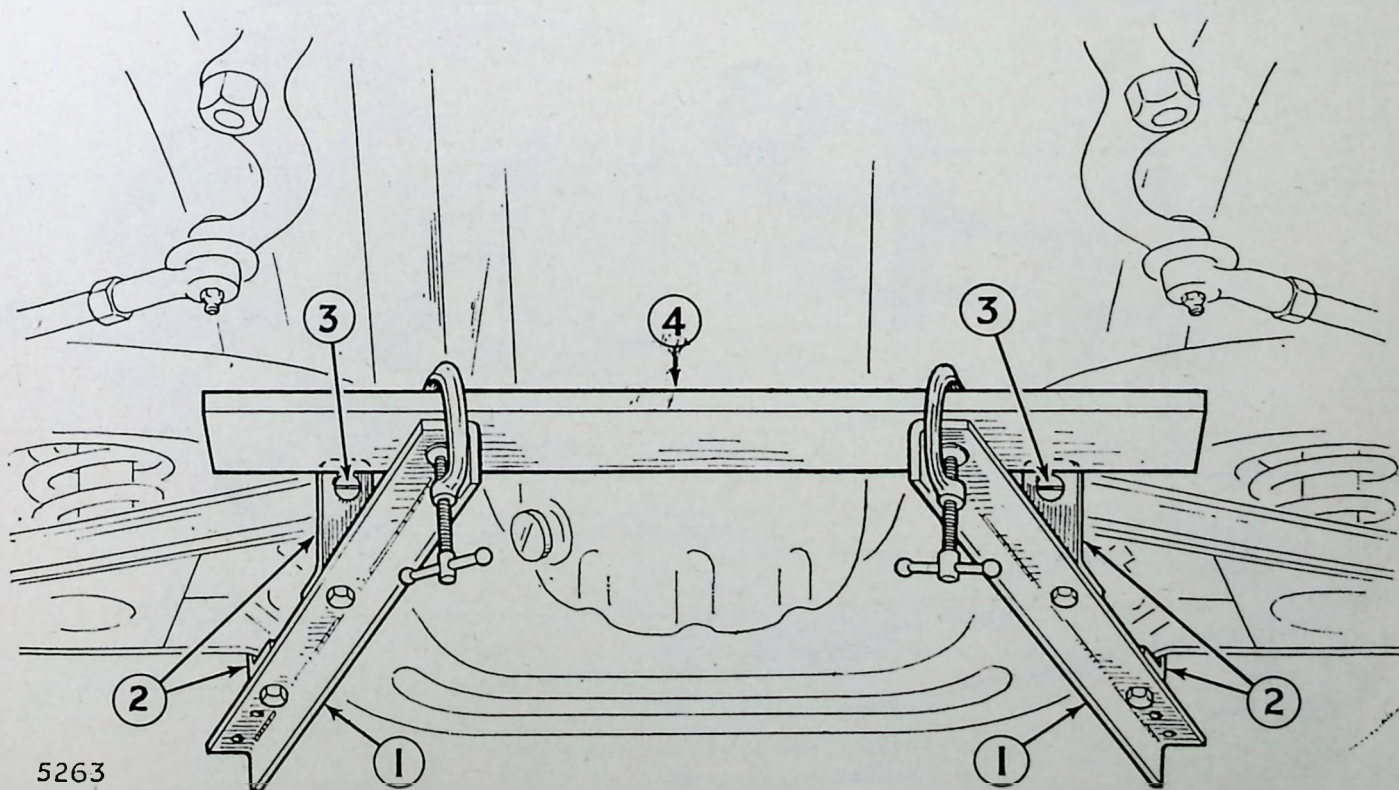

FIG 10—Ball pin height checking fixtures in position. Details of items 1 to 4 are given in figure 12.
Steering ball pin heights are checked by means of a scribing block used on the simple tool illustrated in Figs 10 and 11. This tool is necessary as it enables measurements to be taken from the lower link fulcrum pin centres which are the correct datum points.
Fit up tool as illustrated in Fig. 10, making sure that no slackness exists between centres and greaser holes.
brackets item 3, from the measuring surface item 4, see Fig. 10. These heights should be equal.